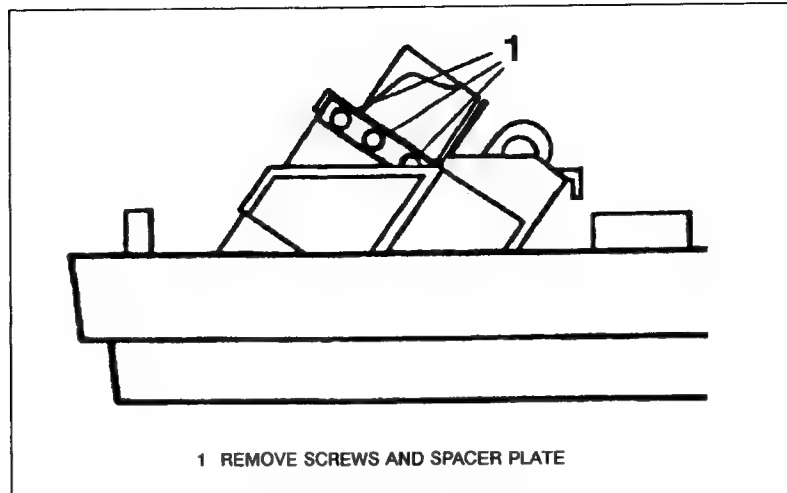

Figure 6-10. Print Mechanism (Right End View)
- d. Remove the three pozidrive screws or three 3mm socketed cap screws and the flat spacer plate from the right-end of the print bar (see Figure 6-10).